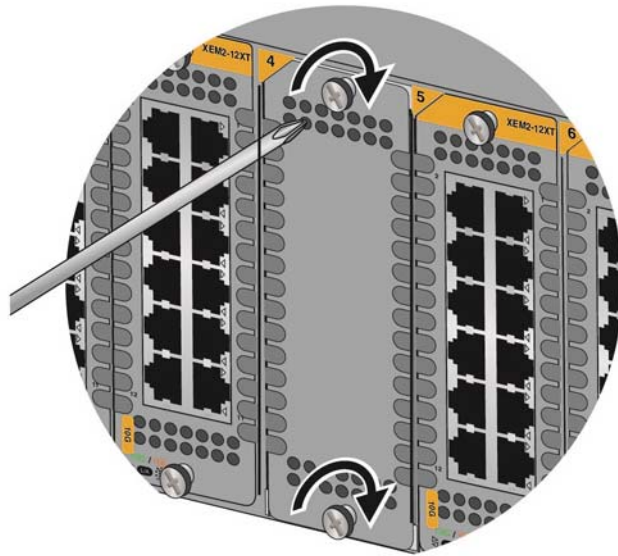

Figure 48. Tightening the Captive Screws on a Blank Slot Cover
2. Tighten the two captive screws with a #2 Phillips-head screwdriver to secure the cover to the chassis. Refer to Figure 48 on page 84.